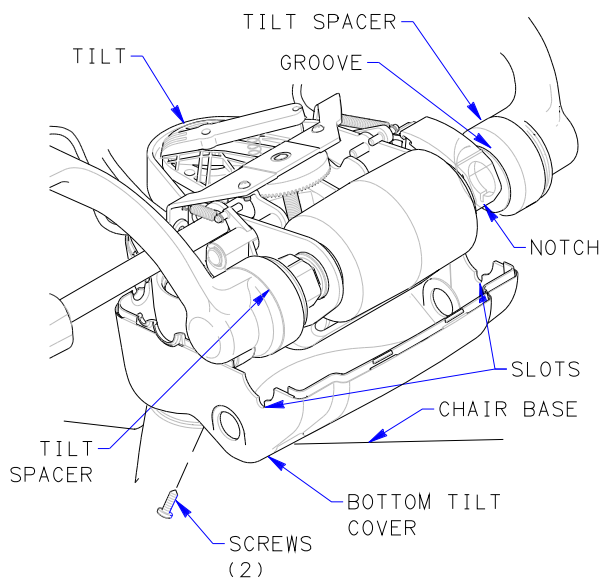

FIGURE 7
4. USING #2 PHILLIPS HEAD SCREWDRIVER REMOVE AND SET ASIDE (2) SCREWS SECURING BOTTOM TILT COVER TO TILT. REST BOTTOM TILT COVER ON CHAIR BASE. SEE FIGURE 7.
15. SLIDE BOTTOM TILT COVER UP TO TILT. MAKE SURE NOTCHES IN TILT SPACER GROOVES ENGAGE SLOTS IN TILT COVER. IF NECESSARY, ROTATE TILT SPACERS TO ALIGN NOTCHES WITH SLOTS. ALIGN (2) HOLES IN TILT COVER TO HOLES IN TILT. REINSTALL (2) SCREWS AND TIGHTEN. SEE FIGURE 7.